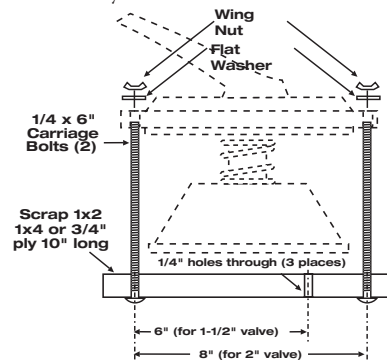

Fig. 1 - Fixture dimensions for valve spring compressor
5. Compress diverter as shown in figures 1 and 2.
8. Reassembly diverter, cover and handle by compressing spring (see figs 1 & 2) and reversing procedure on previous page.